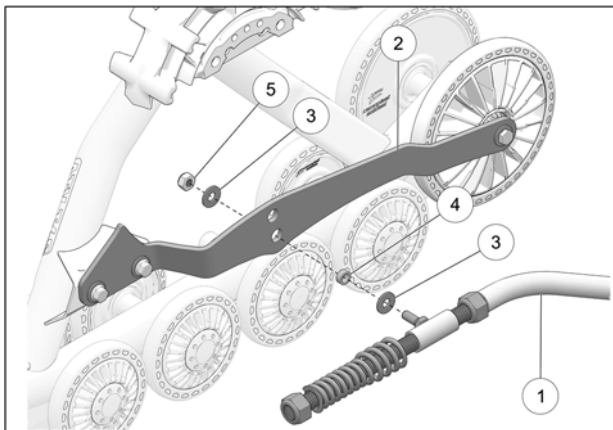

Fig. 5
- Attach the rear suspension stabilizing rod (**1**) to the undercarriage bracket (**2**) using washers (**3**), bushing (**4**) and nut (**5**). Use lower hole. Torque nut to 50 N•m [37 lb•ft]. See Fig. 5